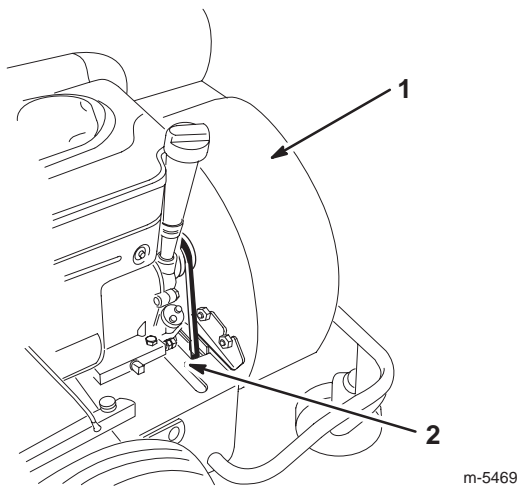

Figure 28
11. Insert the belt over the pulley and down through the opening (Fig. 28).